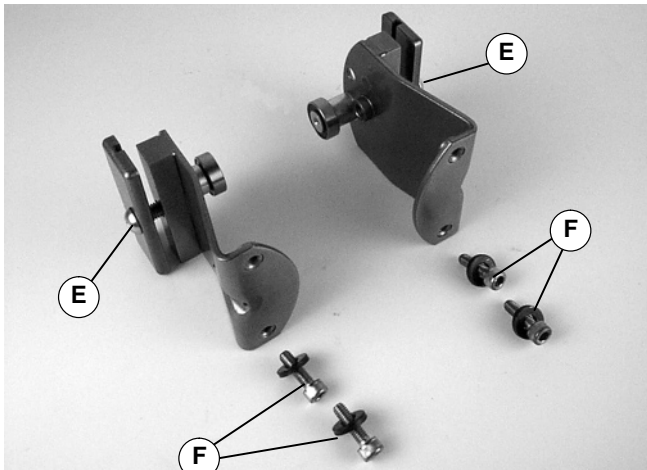

Figure 5
2. Loosen (but do not remove) screws (E) and remove screws and washers (F) (Figure 5).